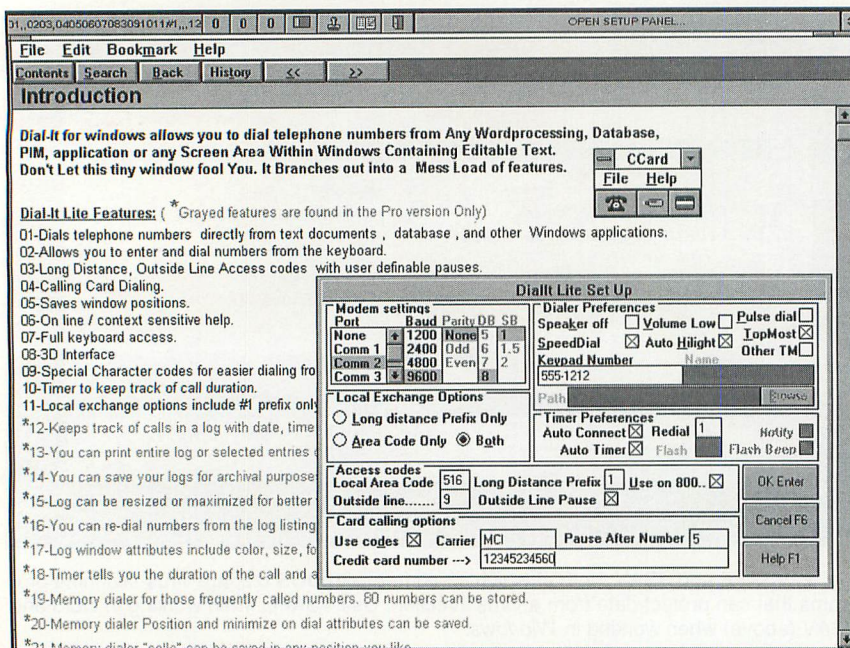

Fig. 3. Dial-It is a simple Windows shareware program that lets you dial phone numbers from virtually any Windows application by simply clicking on the number.
A. There's a really nifty shareware program called *Dial-It* (Fig. 3) that can be found on most on-line services and many popular BBSes. It comes in a lite version, DIALITE.ZIP, and a Pro version, DIALIT-